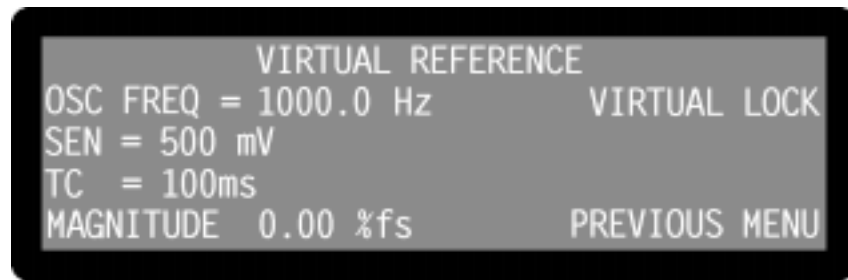

Figure 5-36, Virtual Reference (2) Menu
Once the sweep has stopped, go to the User Options 2 menu and select the Virtual Reference menu. Select the Manual Setup item and the Virtual Reference (2) menu will appear, as shown in figure 5-36.